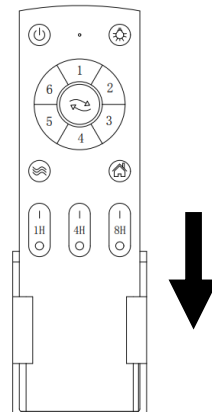

Fig. 8b
2. Slide the remote into the holder to rest the remote. (Fig. 8b)